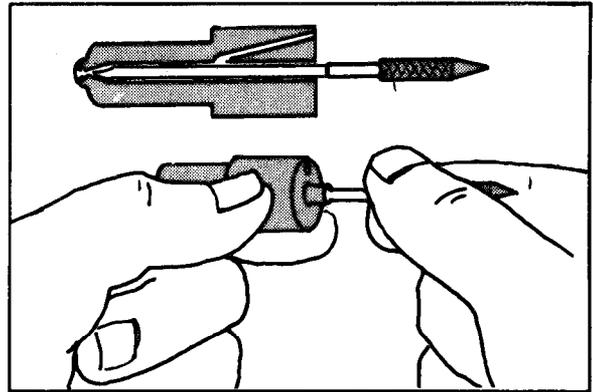

Figure 7-7
3. Clean interior ring groove of nozzle tip with a scraper (Figure 7-7). Rinse in dry cleaning solvent P-D-680 to remove all dirt and carbon residue and dip in clean diesel fuel.